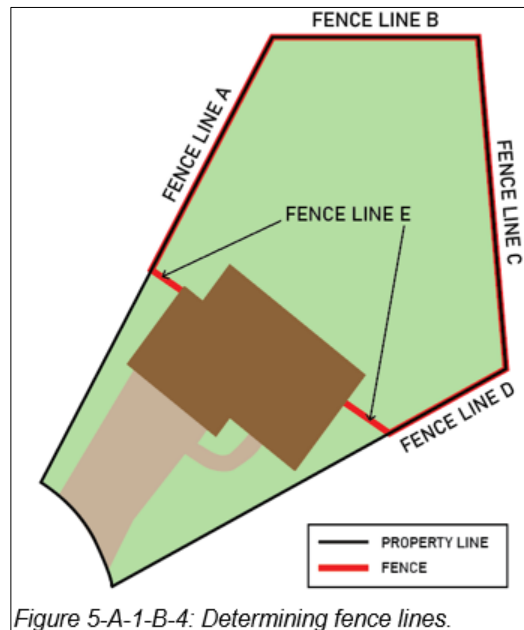

Figure 5-A-1-B-4: Determining fence lines.
- 4. When replacing less than 50% of a single fence line with the same fence materials, height, and design, in the same location as the fence was previously permitted. See *Figure 5-A-1-B-4*.